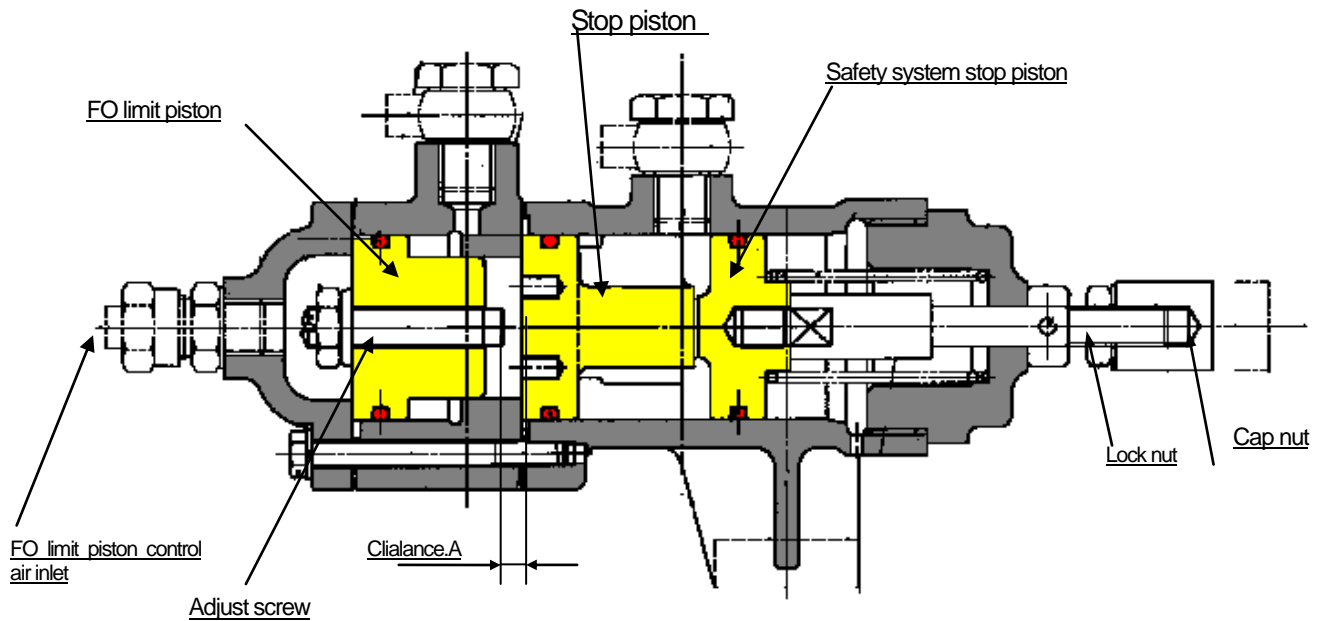

Fig.1 FO Limit & FO Cut Device
Fig.1 shows the FO limit and FO Cut Device (FO Limit Piston, Stop Piston & Safety System Stop Piston (Marine Aux. Engine)).
- ① When the FO non-injection rack scale approaches zero, the plunger guide can interfere with the rack scale and it may be damaged. Accordingly, adjust that no injection is made at the rack scale of 4-6.
- ② When the stop air piston stroke is insufficient, the rack cannot be moved up to the FO non-injecting position and the engine cannot be stopped by the air piston. Adjust the cap nut in this case.
- ① Introduce the control air from the FO limit piston control air inlet. Thrust the FO injection pump rack (lay shaft) inside with operating the piston and check that the value complies with the limit rack amount in Table 1.
- ② If the limit rack value is not obtained, adjust Clearance A with the adjust screw, (Fig.1), for obtaining the limit rack value in Table 1.